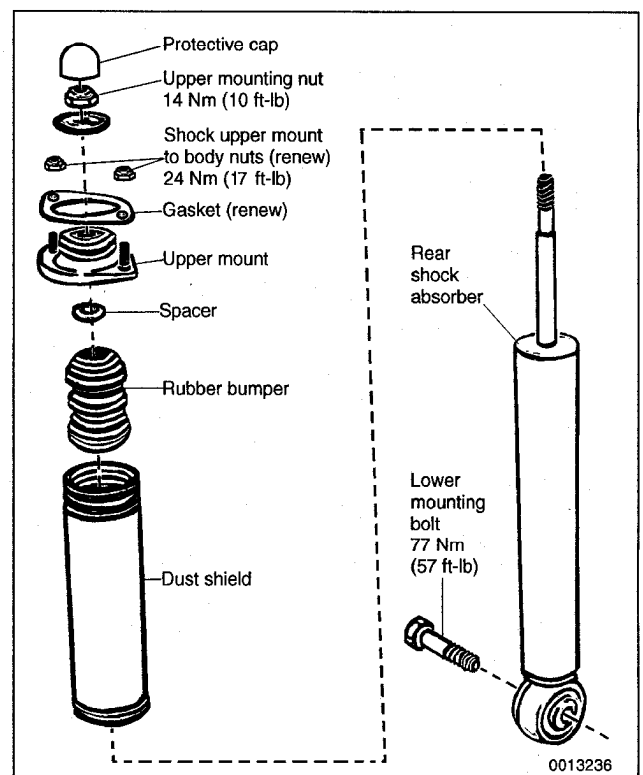

Fig. 5. Rear shock absorber assembly.
6. Transfer shock top mounting plate, dust cover and related components to new shock absorber. See Fig. 5.